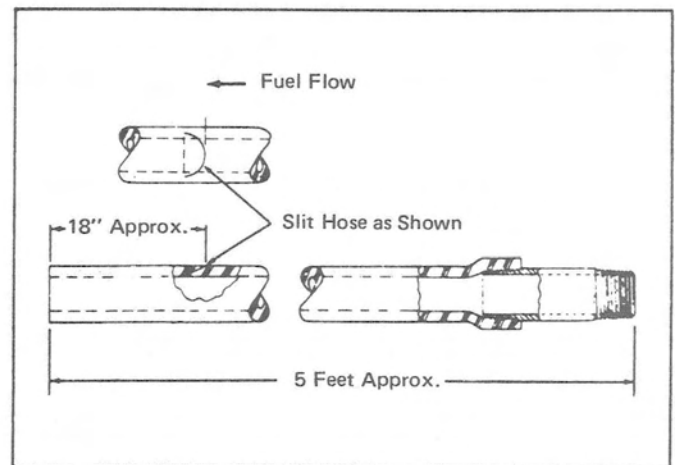

Figure 1. Siphon Construction
1. Obtain approximately 5 feet of 3/8" ID hose and cut a flap-type slit 18" from one end. Make this cut in the direction of fuel flow. (Figure 1)